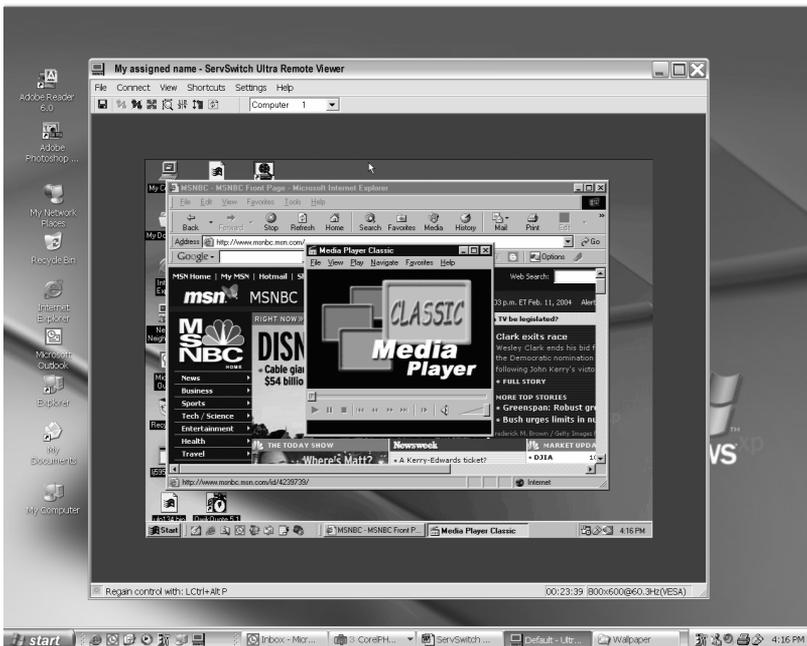

Figure 1.5 Remote video displayed in the Viewer
- Enter the user ID “admin” and no password. Once validated, the video output of the computer connected to the ServSwitch Ultra Remote or KVM switch will display. An example is shown in Figure 1.5.